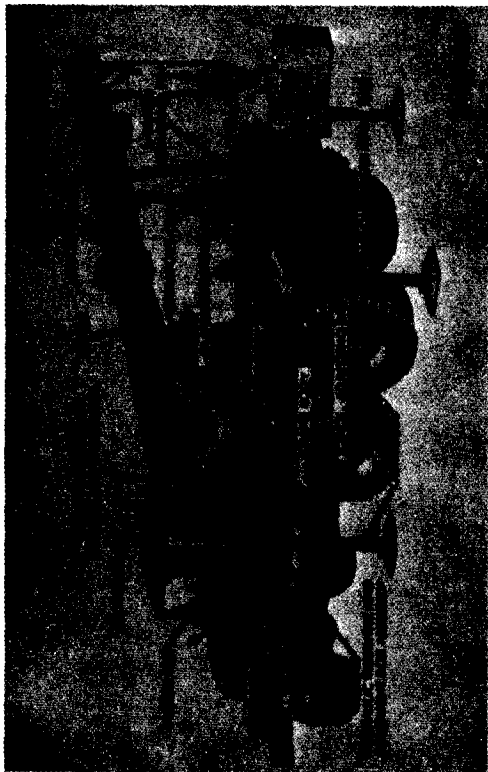
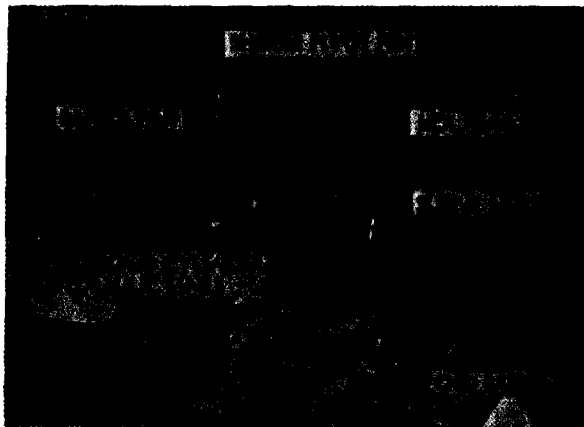

Figure 404. Medium wrecker truck M62 with outriggers down and shipper brace rigged.
Figure 405. View of right end of shipper pivot pin installed in shipper support.
f. *Boom and Shipper Assembly*. The boom and shipper assembly consists of the boom (fig. 404) and shipper, which are telescoping tubular steel members having a rectangular-shaped cross section, held together by the boom crowd cylinder ((h) below). The rear end of the shipper is pivoted on a pin (fig. 405) installed at the top of the shipper support, which permits raising and lowering the front end of the boom. Weight of the shipper and boom assembly is approximately 2150 pounds. Although the boom and shipper assembly removal pro-
i. *Boom Hoist Hydraulic Oil Motor and Cable Drum Assembly*. The boom hoist hydraulic oil motor and cable drum assembly (fig. 404) is bolted to the rear of the shipper. Either the oil
l. Hydraulic Reservoir and Equipment Box (fig. 404). The hydraulic reservoir and equipment box assembly is bolted to brackets attached to the frame side rails. Although the reservoir and equipment box removal procedures (par. 321) require removal of the power divider, hydraulic pump, and relief valve before removal of the reservoir and equipment box, these assemblies can be removed with the reservoir as a single unit.
m. Crane Body (Fig. 404). The crane body is bolted at the rear to the left and right frame side rails by two U-bolts, one at each side. The